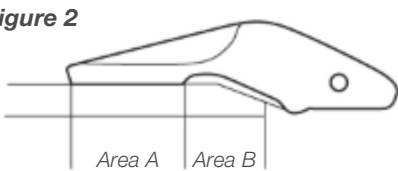

Figure 2
3. Start welding in the centre of the above strap of the adapter, welding around it until reaching the same point on the opposite side (Area A, Fig 2).